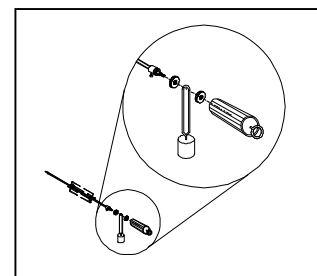

Fig. 5
5. Assembly instructions for the counterbalance and handle are shown below. (See Fig. 5)